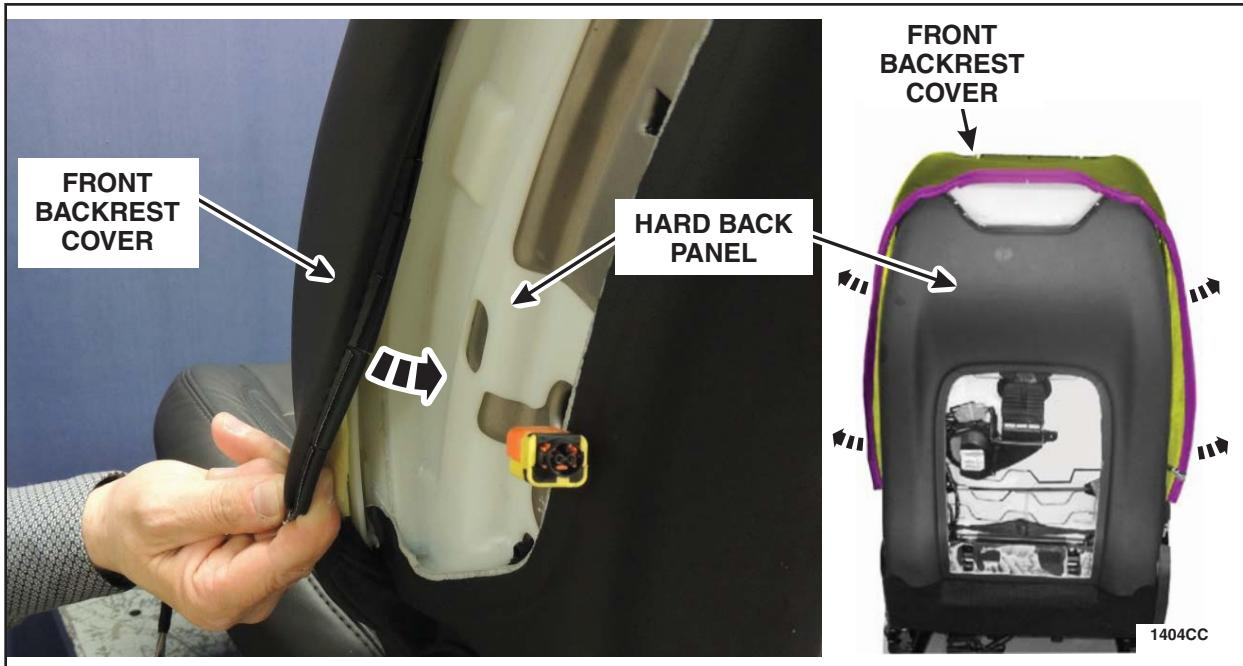

FIGURE 3
14. Attach the backrest cover lower j-clip. See Figure 3.
6. Release the front backrest cover from the hard back panel. See Figure 3.